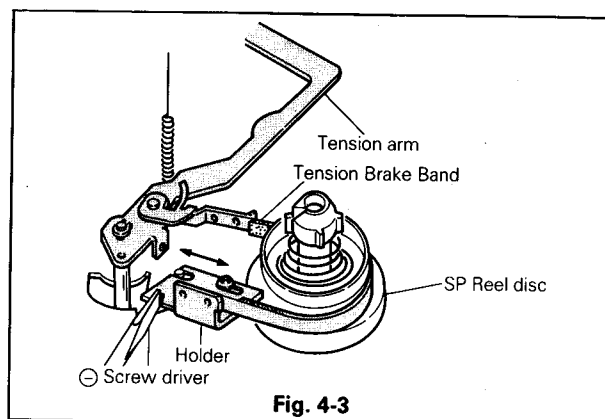

Fig. 4-3
- If the tension post is outside the range, move the holder shown in Fig. 4-3 and adjust the position of the tension post.